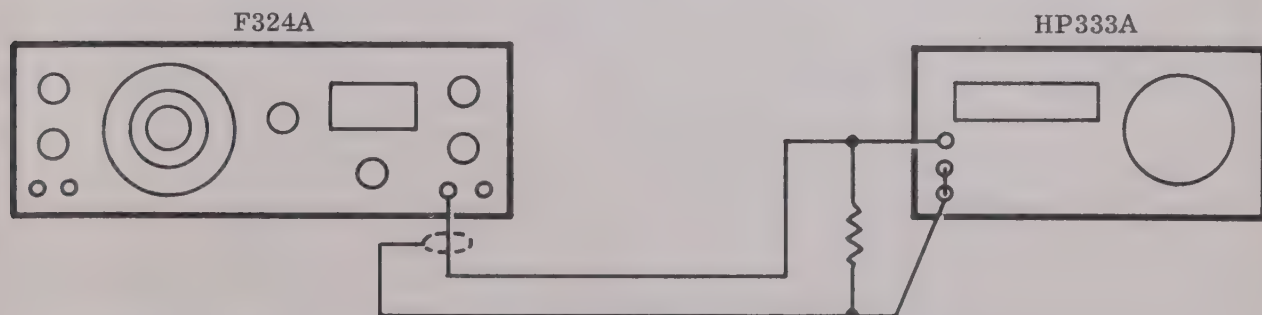

FIGURE 5-12
- a. Interconnect equipment as shown in Figure 5-12, observing signal and ground connections carefully. Terminate the